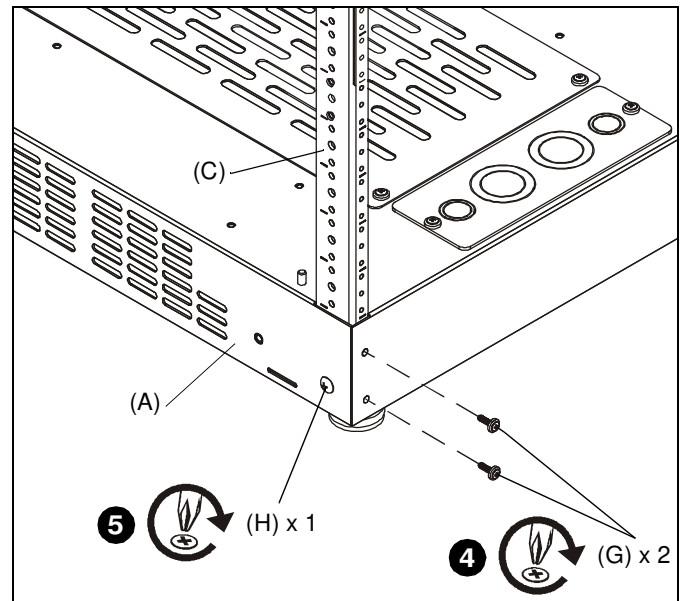

Figure 2
4. Install two 10-32 x 3/4" Phillips head screws (G) through base assembly (A) into rack rail (C) and tighten. (See Figure 2)
5. Tighten Phillips truss head machine screw (H) which was partially installed in Step 3. (See Figure 2)